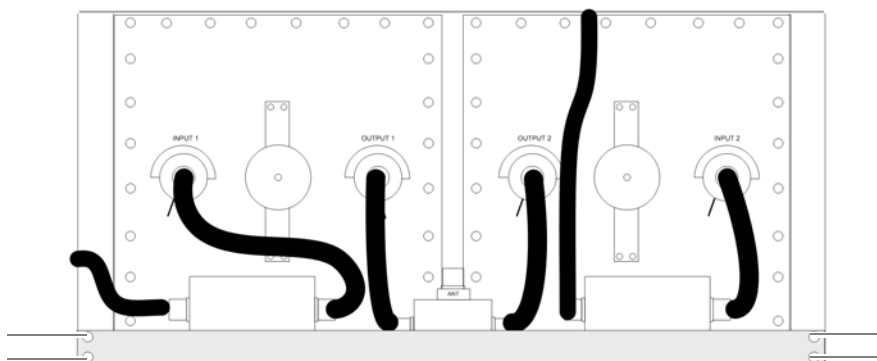

Figure 11.40 Attachment screws of the mounting plate
4. Remove the fastening screws of the mounting plate on which the respective cavity coupler is installed using a size 2 cross-head screwdriver, see Figure 11.40.
4. Fasten the mounting plate with the component mounted on it on the equipment rack again, refer to Figure 11.40 on page 220. Use a size 2 cross-head screwdriver for this purpose.